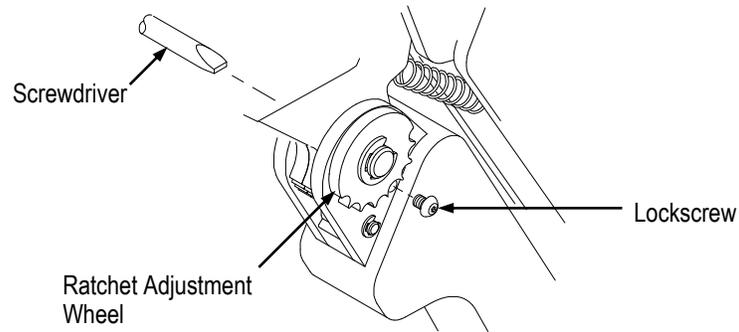

Figure 5
7. RATCHET (Crimp Height) ADJUSTMENT (Figure 5)
- Remove the lockscrew from the ratchet adjustment wheel. Refer to Figure 5.